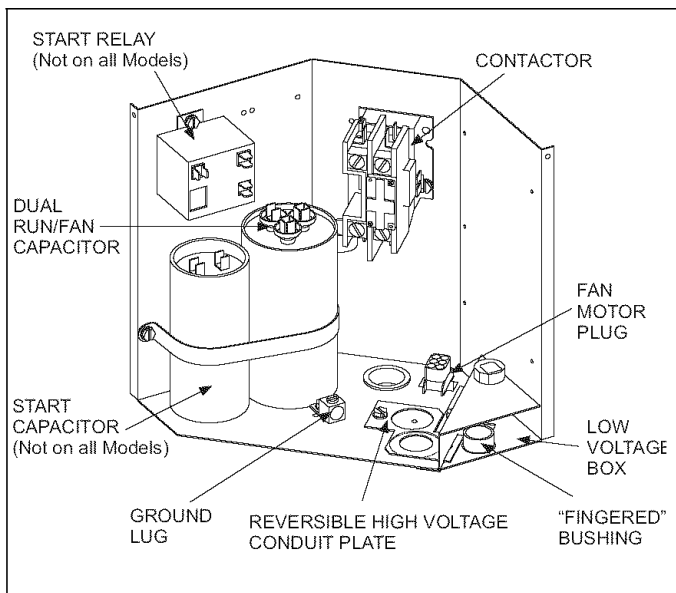
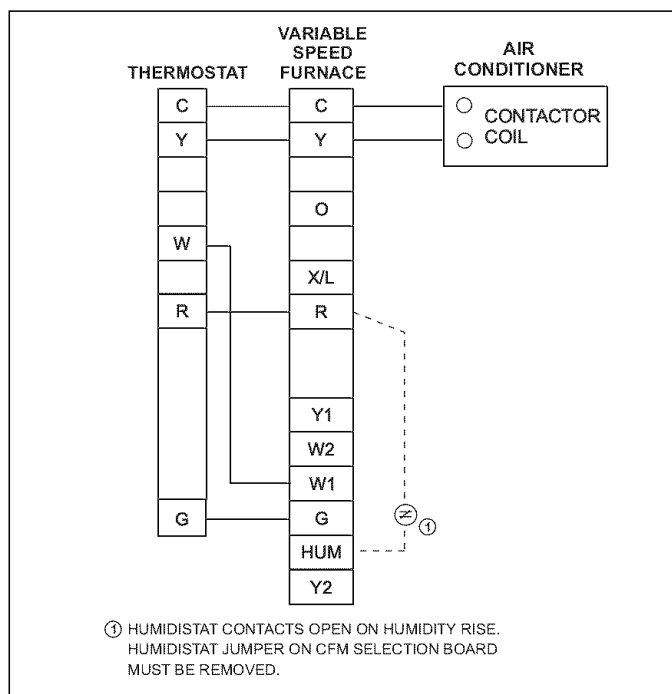

FIGURE 8: Outdoor Unit Control Box
FIGURE 9: Typical Furnace Thermostat Wiring
4. Route wires from disconnect through power wiring opening provided and into the unit control box as shown in Figure 8.
1. Route low voltage wiring into bottom of control box as shown in Figure 8. Make low voltage wiring connections inside the low voltage box per Figures 9 & 10.